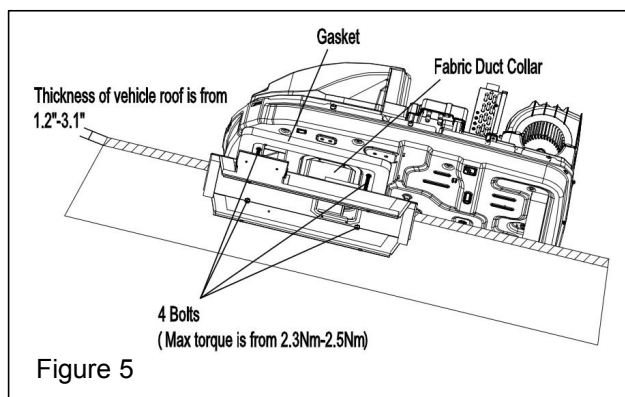
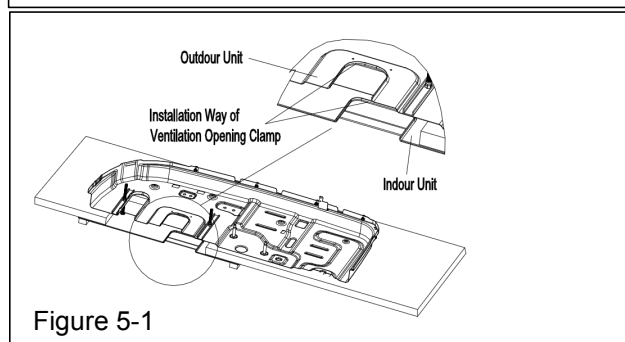
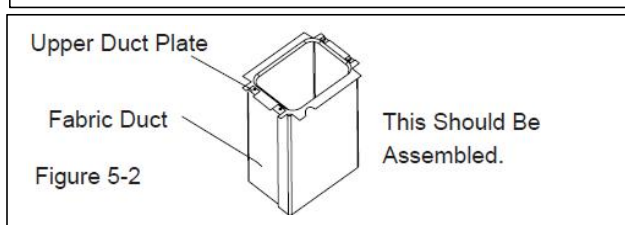
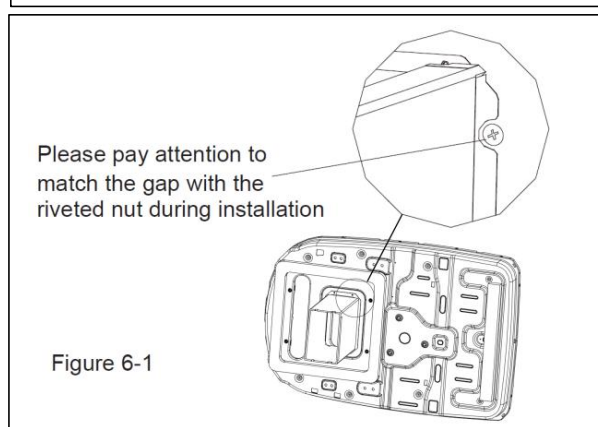

Figure 5
Figure 5-1
Figure 5-2
Figure 6-1
3. Before the ceiling assembly can be mounted to the roof top air conditioner, the fabric duct collar must be fastened to the basepan of the roof top air conditioner with 4 screws by upper duct plate (see Figure 5-2、Figure 6-1、Figure 5、Figure 5-1).
5. Secure the ceiling assembly frame to the roof top air conditioner with the mounting bolts (see Figure 5). You must start (thread) the mounting bolts by hand to avoid cross-threading. DO NOT START THE MOUNTING BOLTS WITH AN AIR GUN. The mounting bolts should be tightened, process is completed when the basepan gasket has been evenly compressed.